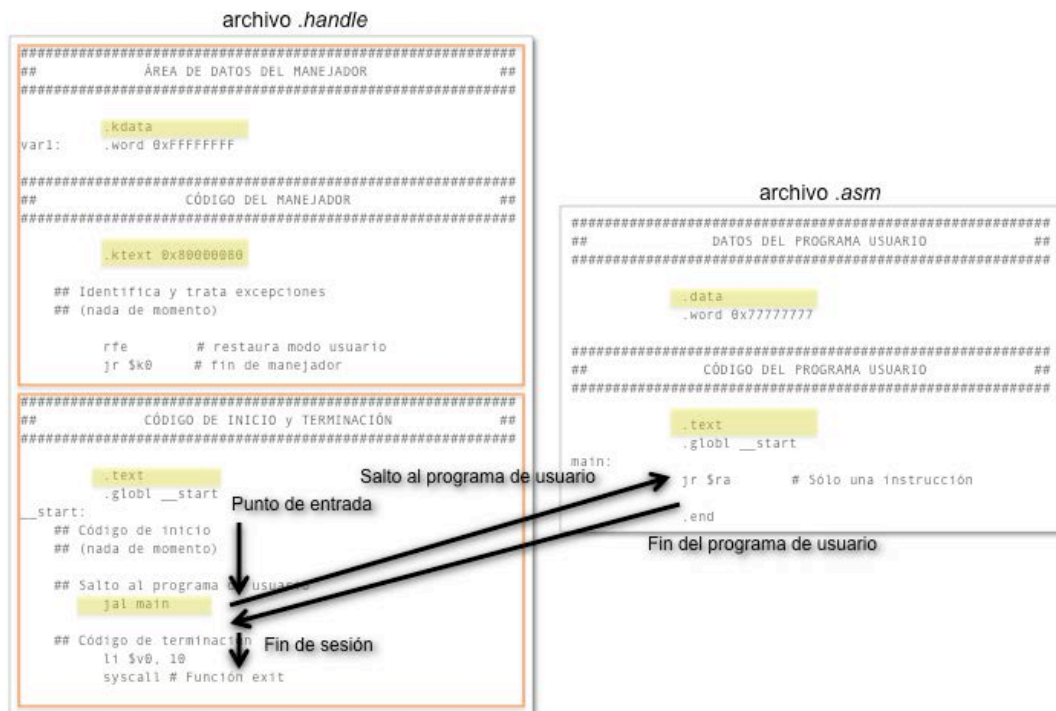

Figure 3. System execution flow
► Look at figure 3 or open with a text editor the files *nothing.handler* and *nothing.asm* in order to check the following issues: